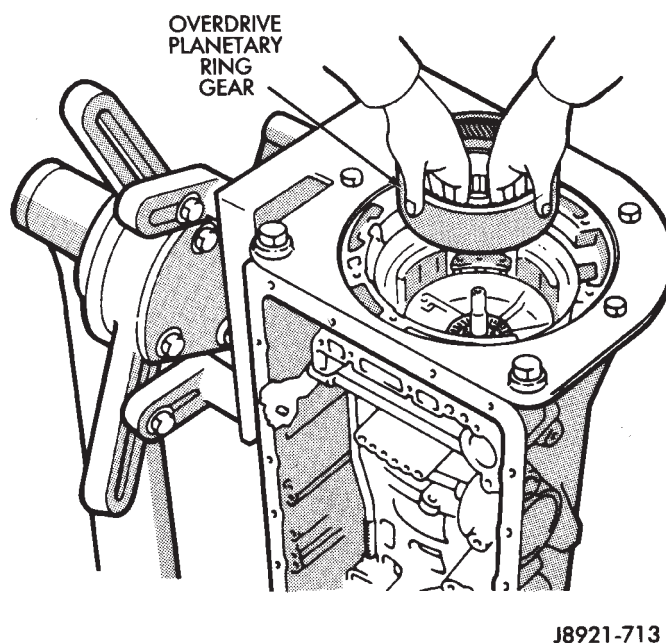

Fig. 46 Installing Overdrive Planetary Ring Gear
(57) Install overdrive planetary ring gear in support (Fig. 46).